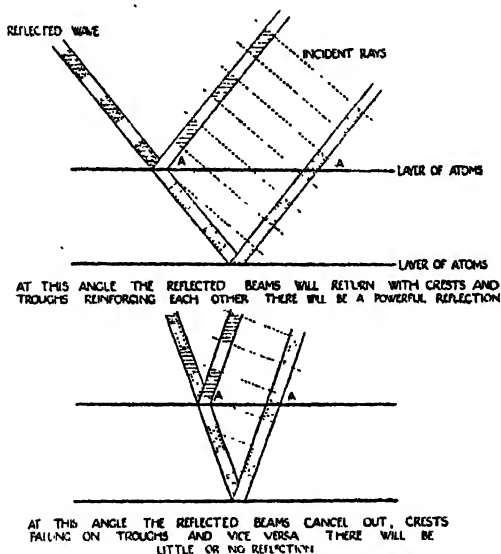

FIG. 336.—Showing that a crystal, consisting of layers of atoms, will reflect X-rays at certain angles, but not at others.
Fig. 336 shows that only for certain values of the angle (A) at which the X-rays strike the crystal will a powerful reflection take place: it is not difficult to see that knowing the wavelength